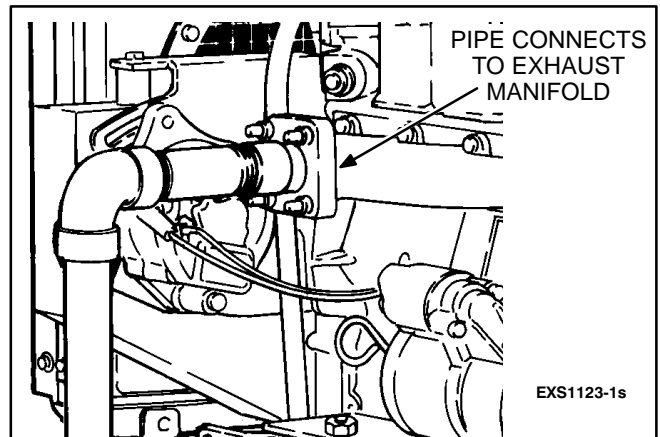

FIGURE 3-13. EXHAUST PIPE CONNECTION
1. Connect the exhaust pipe (1.5-inch I.D., installer-supplied) to the genset as shown in Figure 3-13.